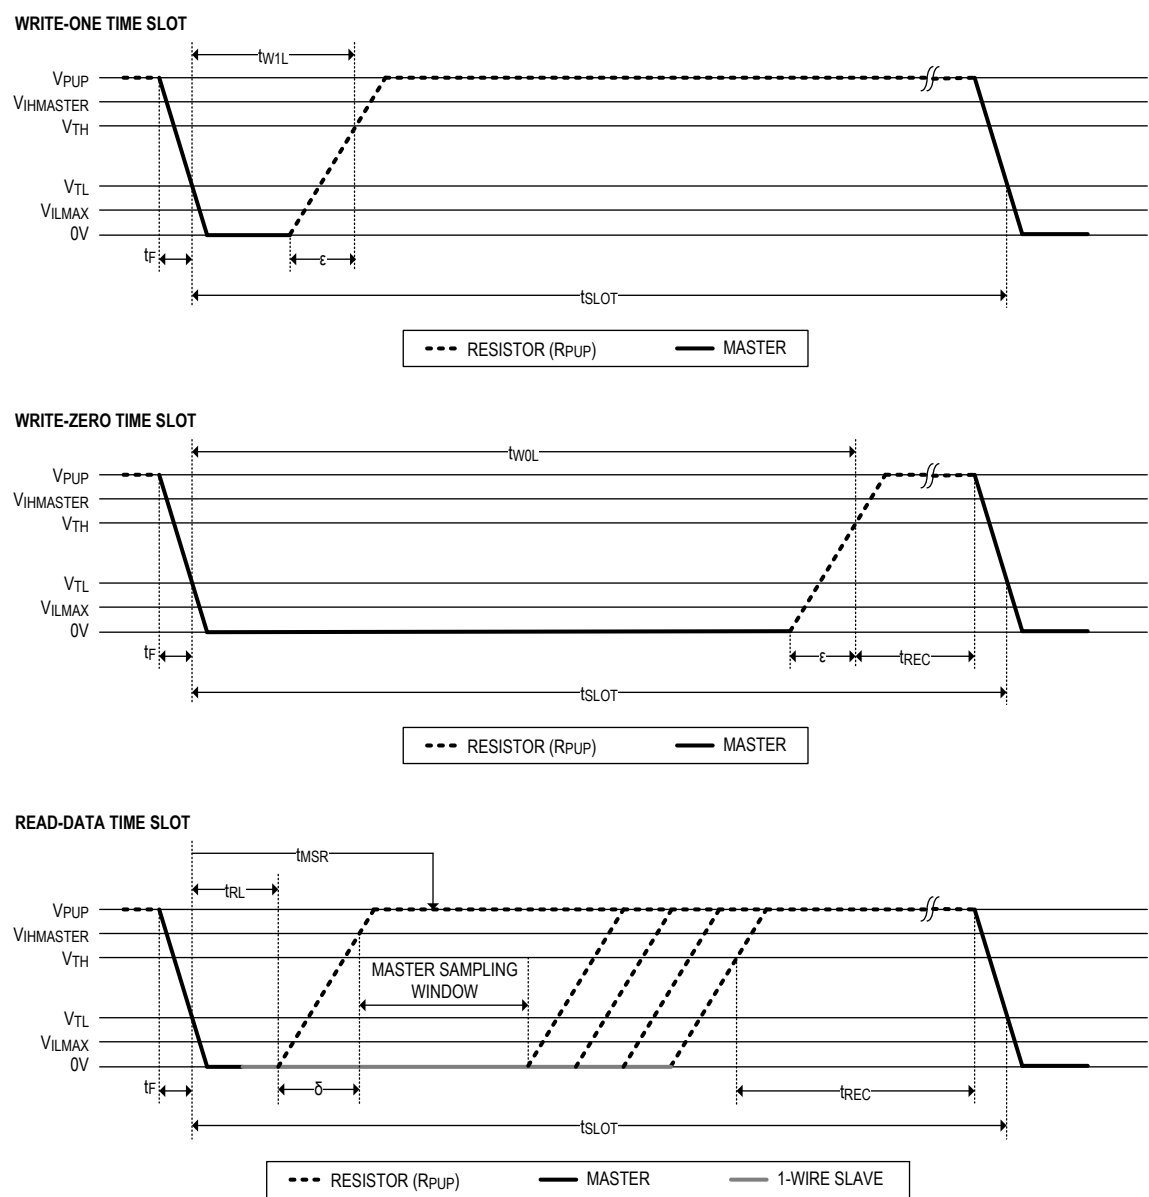

Figure 4. Read/Write Timing Diagrams
- Note 17:** ϵ in Figure 4 represents the time required for the pullup circuitry to pull the voltage on IO up from V_{IL} to V_{TH} .
- Note 18:** δ in Figure 4 represents the time required for the pullup circuitry to pull the voltage on IO up from V_{IL} to the input-high threshold of the bus master.
Data communication with the DS28E84 takes place in time slots that carry a single bit each. Write time slots transport data from bus master to slave. Read time slots transfer data from slave to master. Figure 4 illustrates the definitions of the write and read time slots.